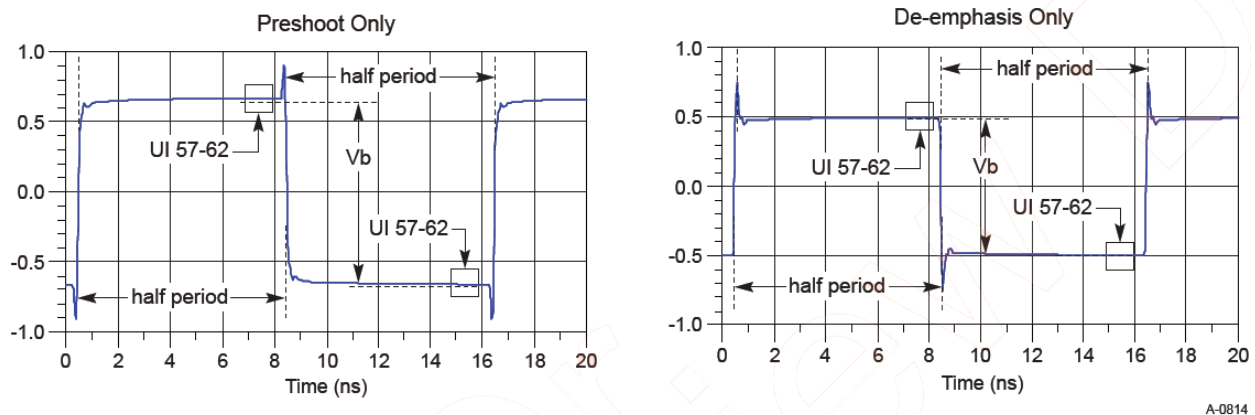

Figure 100 Waveform measurement points for preshoot and de-emphasis
8.0 GT/s, 16.0 GT/s and 32.0 GT/s PCIe signaling must support the full range of presets given in Table 8-1 (PCIe Base Specification Revision 5.0). Presets are defined in terms of ratios, relating the pre-cursor and post-cursor equalization voltages. The pre-cursor (V_c) is referred to as pre-shoot, while the post-cursor (V_b) is referred to as de-emphasis. This convention permits the specification to retain the existing 2.5 GT/s and 5.0 GT/s definitions for Tx equalization, where only de-emphasis is defined, and it allows preshoot and de-emphasis to be defined such that each is independent of the other. The tolerances in Table 8-1 (PCIe Base Specification Revision 5) also apply to 2.5 and 5.0 GT/s de-emphasis. The maximum swing, V_d , is also shown to illustrate that, when both c_{+1} and c_{-1} are nonzero, the swing of V_a does not reach the maximum as defined by V_d . The high frequency nature of PCIe signaling makes measurement of single UI pulse heights impractical. Consequently all amplitude measurements are made with low frequency waveforms as shown in Figure 100.